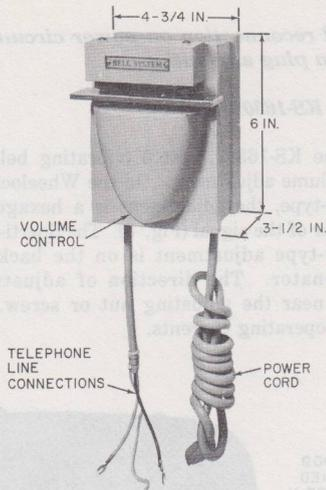

Fig. 13—KS-8229 Chime
5.06 The volume of the KS-8229 signal chime (Fig. 13) may be adjusted by a screw. No other adjustment should be made. Should the plunger stick in its guide, remove plunger and clean with mineral spirits. If this does not correct operation, replace signal device.